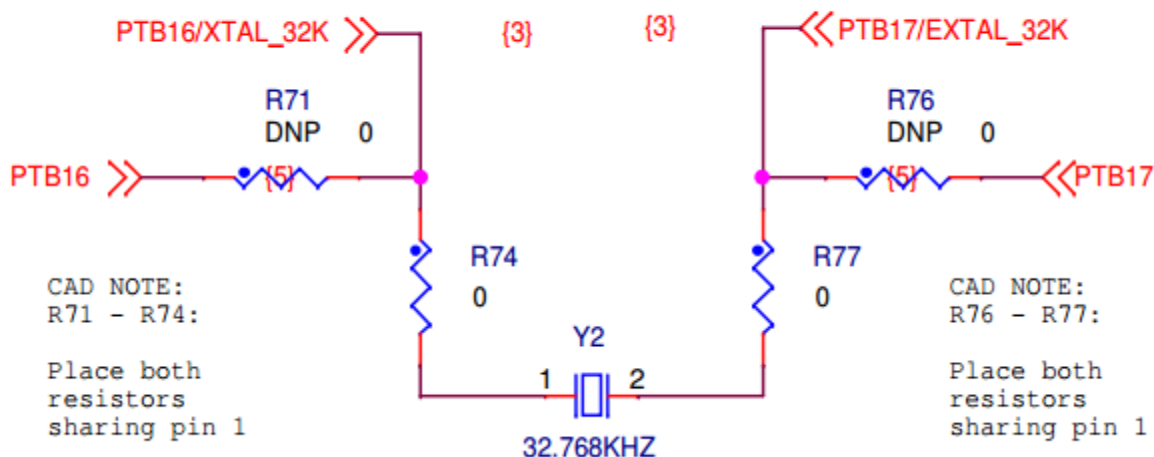

Figure 7. FRDM-KW41Z 32.768 kHz oscillator circuit
- A secondary 32.768 kHz crystal Y2 is provided (see Figure 7)